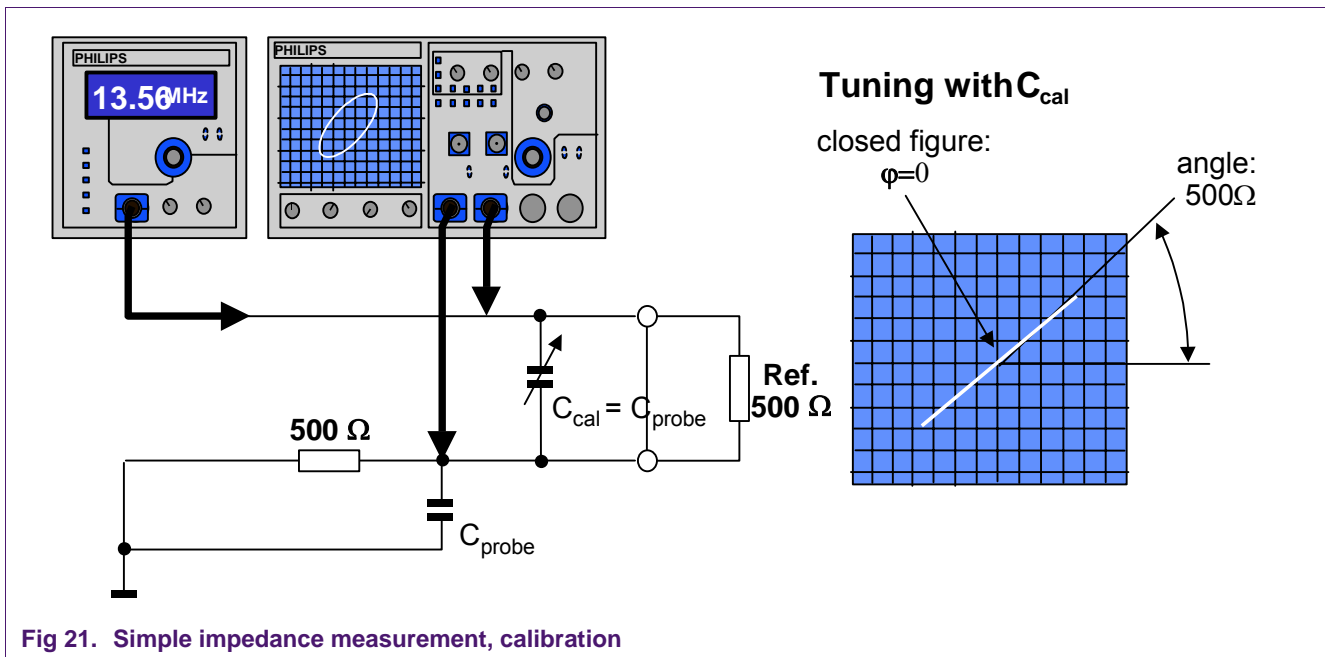

Fig 21. Simple impedance measurement, calibration
3. Measurement circuit as shown in Fig 21
The calibration procedure is depicted in Fig 21. The function generator shall be set to: